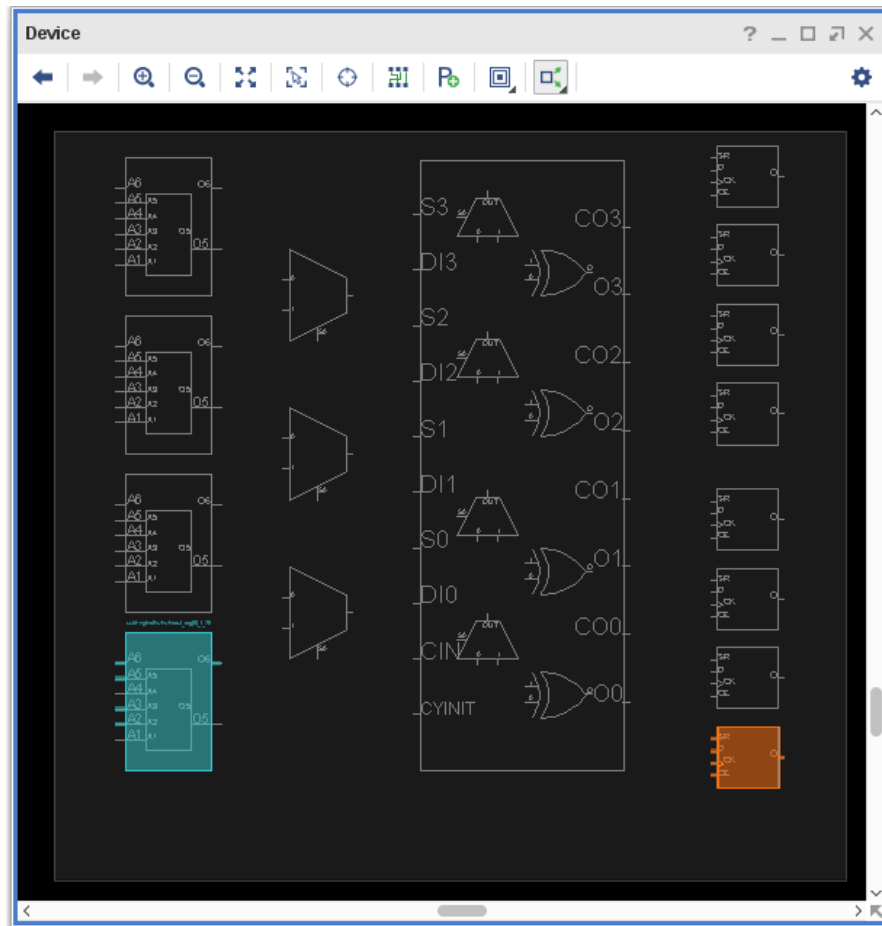

Figure 3-11: Logic Placed in a Slice
- The FF in Figure 3-11 is shown in orange (default) to indicate that it is Fixed.
- The LUT in Figure 3-11 is shown in blue (default) to indicate that it is Unfixed.